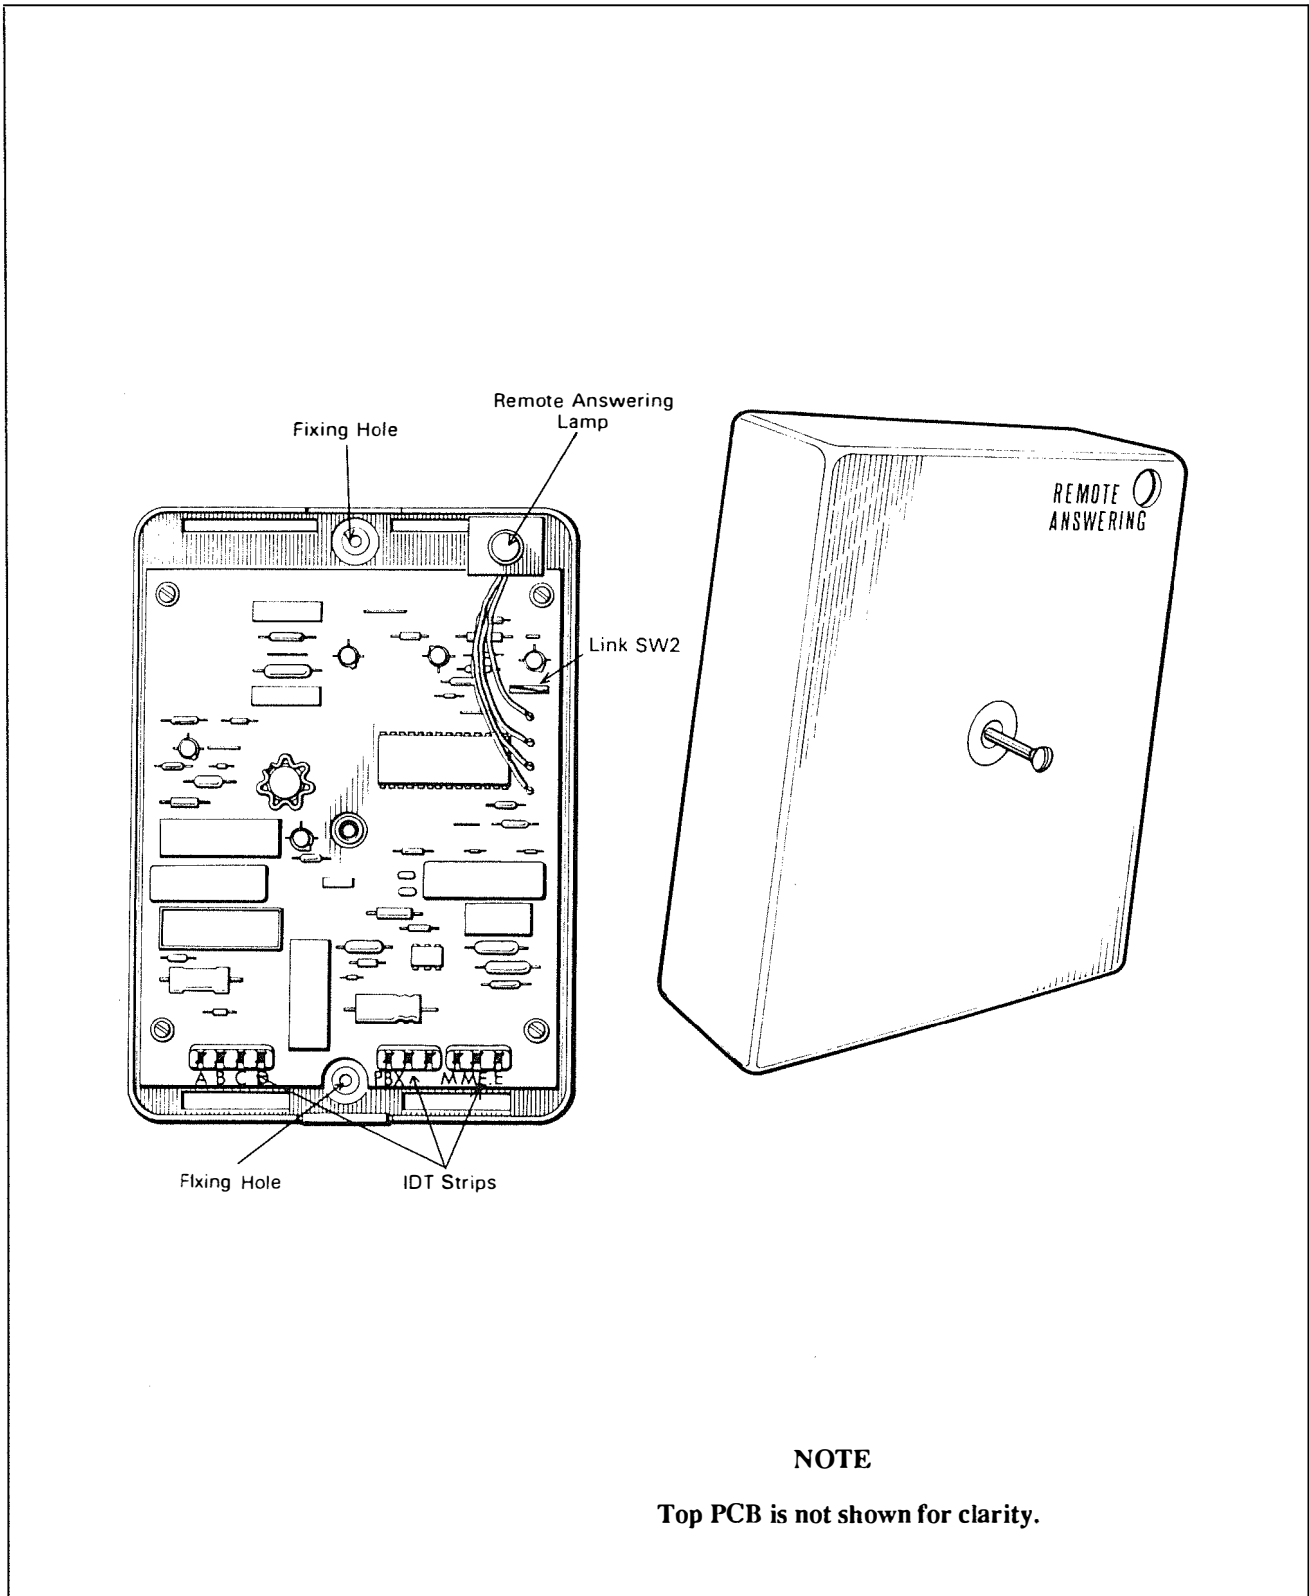

Fig 10.9 INTER-PBX ADAPTOR
- A safety pin type link SW2 is fitted, on the adaptor PCB, close to where the wires to the illuminated press button switch are terminated (shown in Fig 10.9). This switch must be closed when used with Senator.